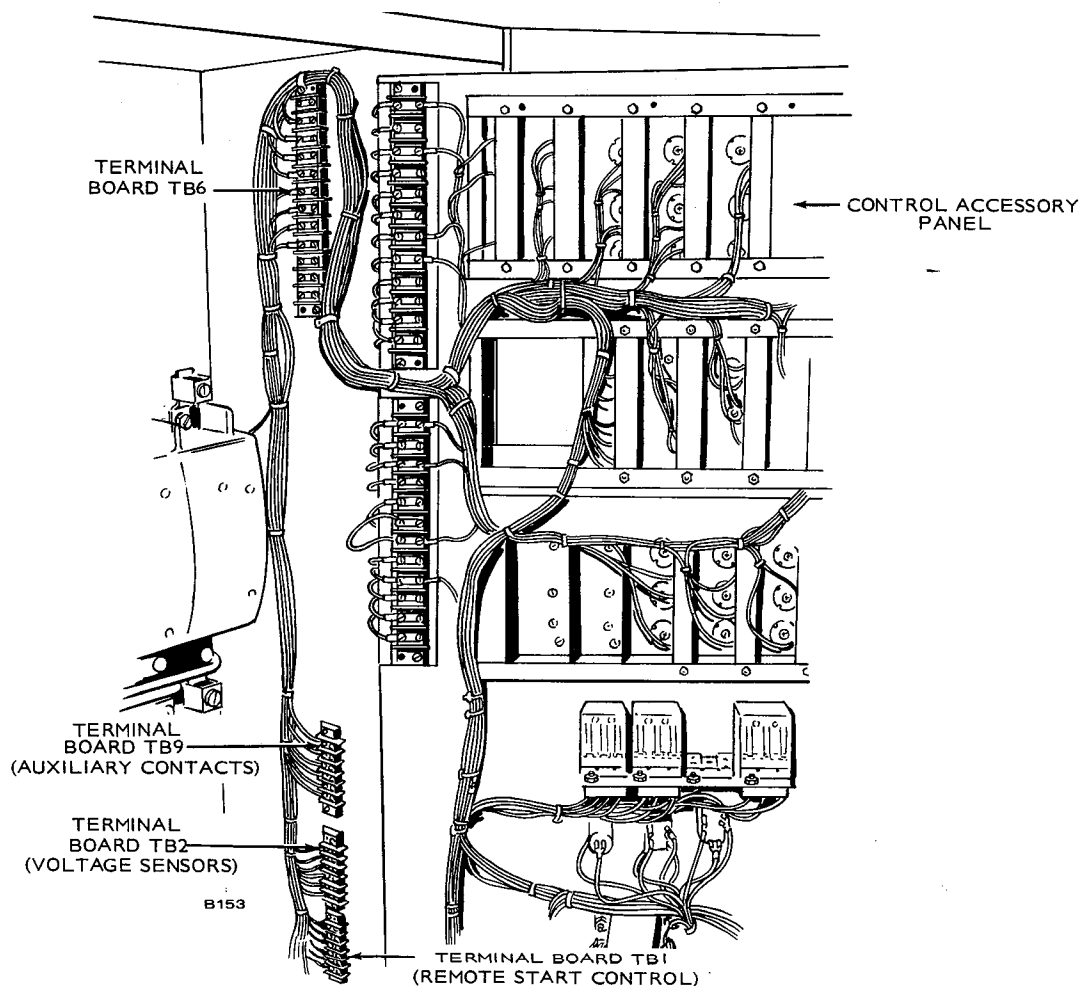

FIGURE 3. TERMINAL BOARD CONNECTIONS FOR CONTROL ACCESSORY PANEL
6. Remove external wires from TB1, TB2, TB6 and TB9 (if all present), then remove these terminal blocks from mounting. See Figure 3.
6. Remove the external wires from TB1 and TB6, then remove the terminal blocks from mounting. See Figure 3.